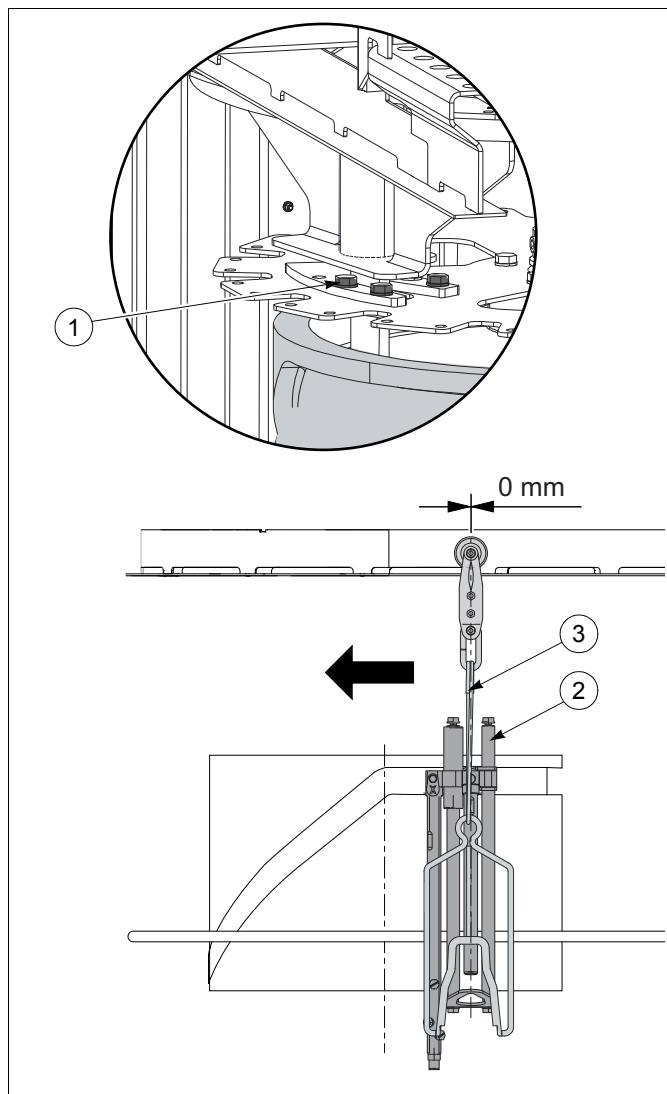

fig. 30 Unit/shackle position
5. During production check whether the movable washing unit is properly positioned in the products. See fig. 30.